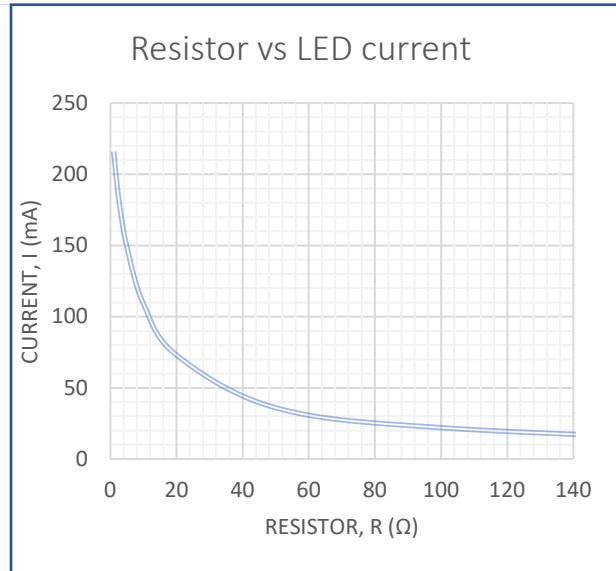

Fig 3B. Load current vs resistor (R_{RES}) at pin 6
Step 3. Select R2 for 150mA from fig 3B. $R2 = 5\Omega$